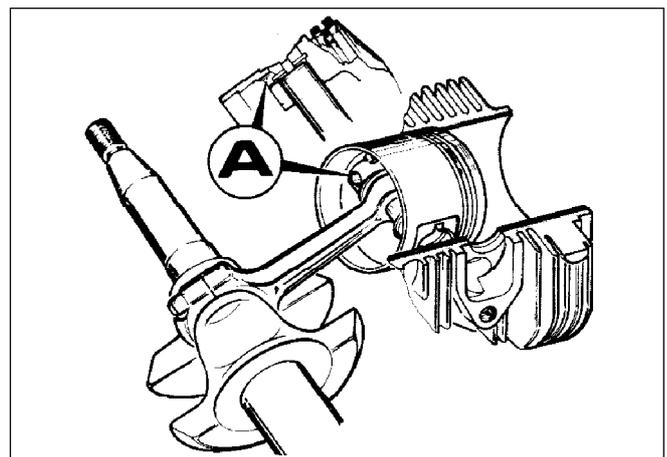

Fig. 9
**NOTE** - The piston has a hole on the piston pin boss (Fig 9).